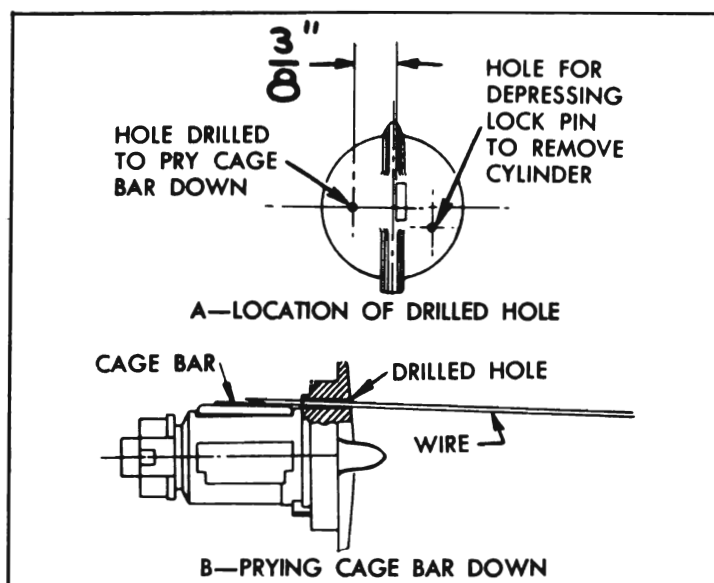

Figure 10-65—Removing Lock Cylinder having a Loose Cage Bar
To remove lock cylinder, insert key and turn ignition switch to "OFF" position. Insert a stiff wire (paper clip) in small hole in face of cylinder (fig. 10-65, view A) to depress the pin which locks the cylinder, turn cylinder clockwise and pull out. To install lock cylinder insert key, place cylinder in switch slightly clockwise from "OFF" position, press inward and turn cylinder counterclockwise.
1. Draw a centerline on cylinder at 90° to key slot, insert key, and make a prick punch mark on centerline  $\frac{3}{8}$ " from side of key. See figure 10-65, view A. Carefully drill a .0465 hole (No. 56 drill) through cylinder flange at this point.
2. File the end of a stiff wire (paper clip) to a taper. Insert this end of wire in drilled hole to pry the cage bar assembly down so that lock cylinder can be turned. See figure 10-65, view B. After turning cylinder slightly, remove the wire to avoid wedging, then remove lock cylinder in the regular manner (subpar. b, above).